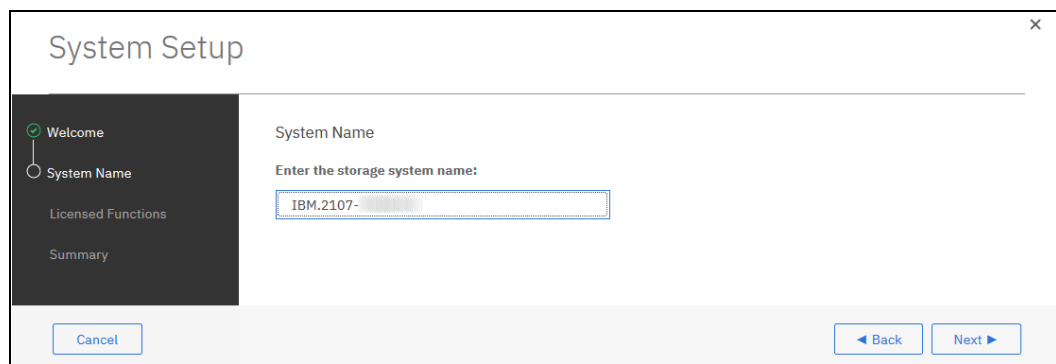

Figure 9-4 System Setup: System Name window
1. Click **Next**. The System Name window opens. The default entry is the storage system serial number, which is shown in Figure 9-4. The user can create a preferred system name that complies with the name convention that is used in the environment.